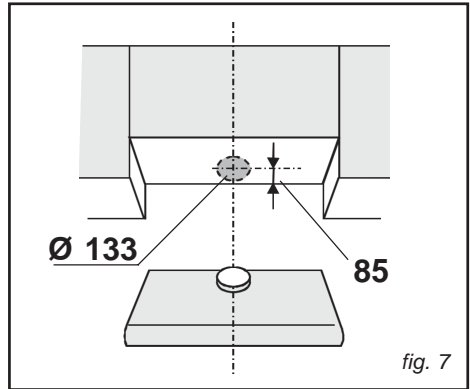

fig. 7
- If you are using top opening B to extract the air through your kitchen cabinet, before attaching the hood to the wall, you need to drill a 133-mm diameter hole in the cabinet (Fig. 7). In any case, check the position of the electrical socket and consider where the electrical wire is to run (you may need to make a hole in your cabinet to pass the wire through).
- If you are using top opening B to extract the air through your kitchen cabinet, before attaching the hood to the cabinet, you need to drill a 133-mm diameter hole in it (Fig. 7). In any case, check the position of the electrical socket and consider where the electrical wire is to run (you may need to make a hole in your cabinet to pass the wire through).